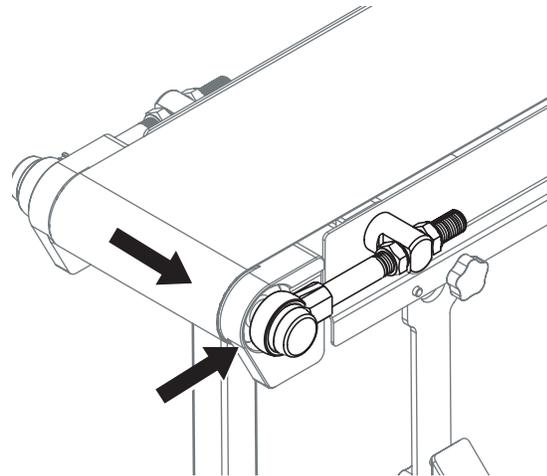

Figure 53
- a. Loosen the nut to shorten the length of the idler tail shaft and bring the belt closer to that side of the conveyor (**Figure 53**).